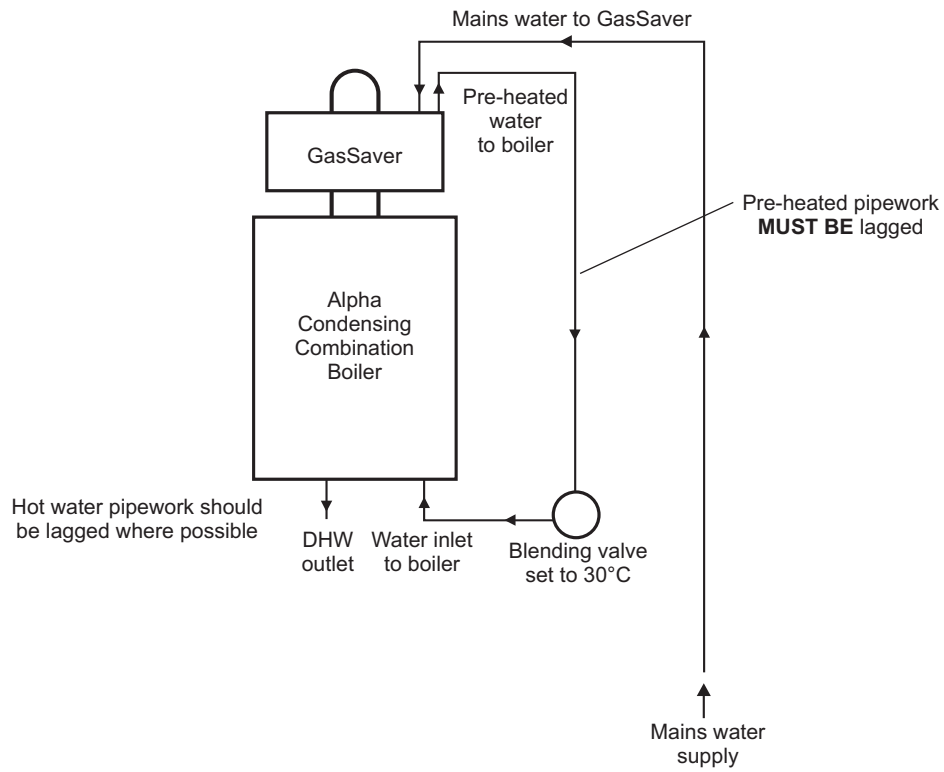

Fig. 3
4.1 TYPE OF INSTALLATION - Fig. 3
5.4 CONNECT THE PIPEWORK - Figs. 3 and 8